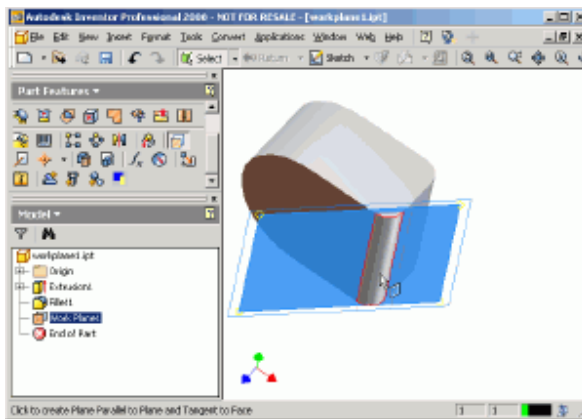

Figure 9: Select existing workplane, then face
1. Select the previous created workplane, then pick on the front curved face of the radius. An offset tangent workplane is now created. (Figures 9, 10)